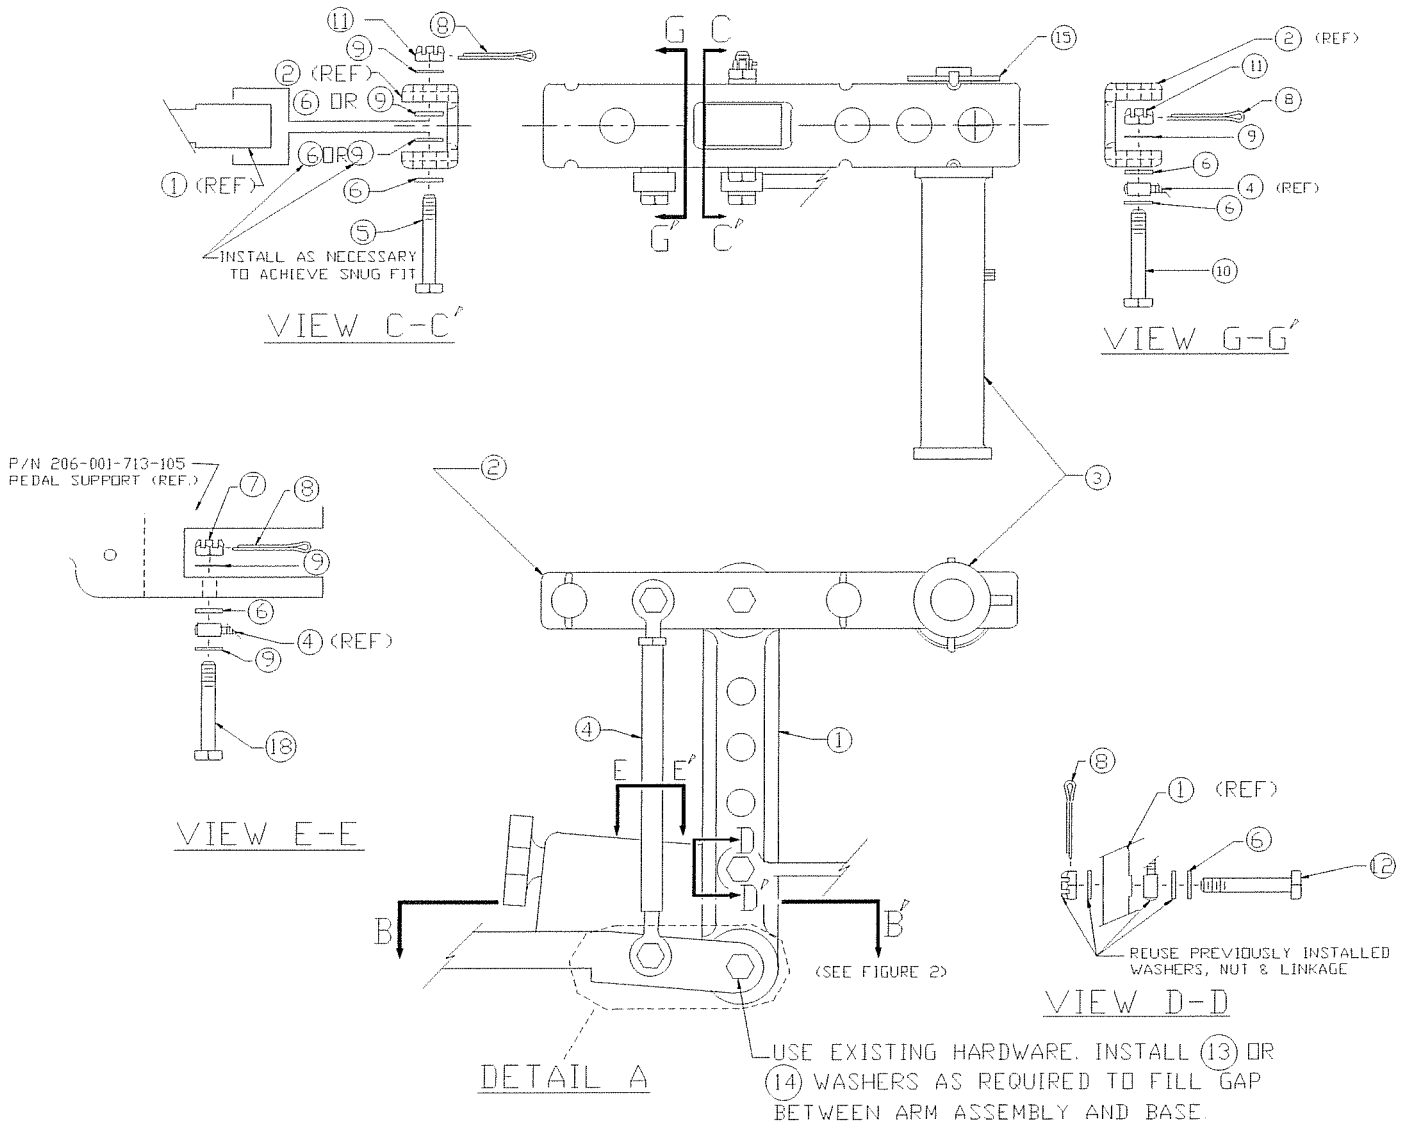

FIGURE 1: PEDAL EXTENSION
2.2 Refer to Figure 1, Items 1- 4 for Inspection and Maintenance of Anti-Torque control pedals and link arm assemblies. Examine each component for dents, scratches, corrosion, or other damage. Any of these are cause for component replacement. Refer to airframe manufacturer's manual for acceptable bearing wear limits.
- 4.2.1 Pedal Linkage components are assembled using the specified Military Standard hardware. The cotter pin in each fastener must be removed for disassembly reference Figure 1.
- 4.3.1 When reassembling the control linkage, refer to Figure 1 to assure proper fasteners.
PARTS LIST FOR FIGURE 1 (-1/-2 INSTALLATIONS)
PARTS LIST FOR FIGURE 1 (-3/-4 INSTALLATIONS)